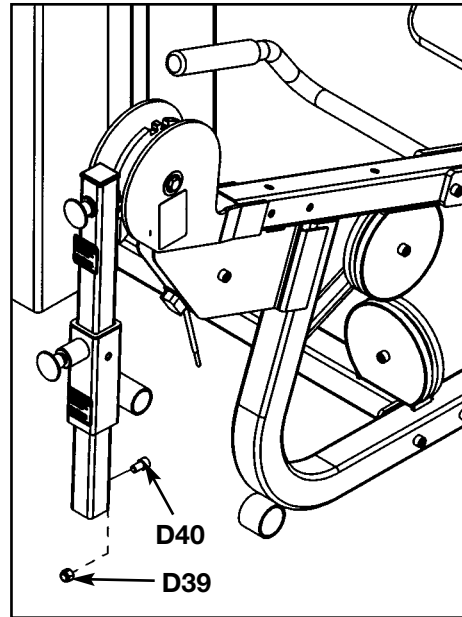

Figure 12B
- C.** Install SHCS .375-16 x .625 (#D40) and one nylon locknut (#D39) as shown in Figure 12B. Tighten hardware securely.